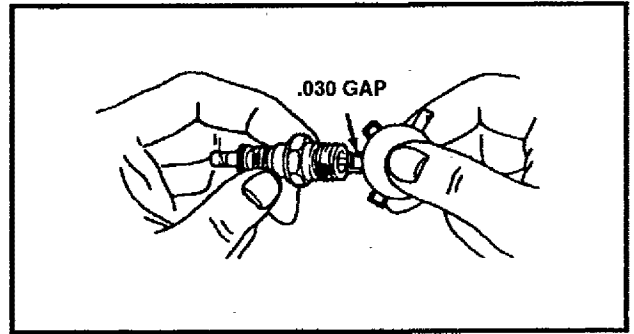

FIG. 9
- Be sure the spark plug is clean and free of foreign material. Check the electrodes gap (See FIG. 9) with a wire feeler gauge and reset the gap to .030 inch if necessary.